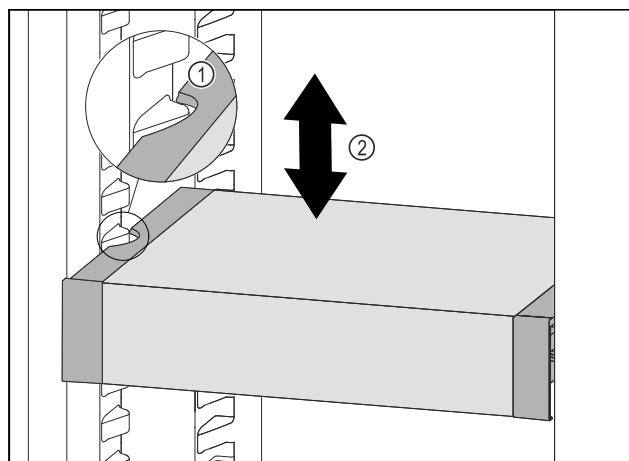

Fig. 118
- ▶ Pull VarioSafe forwards until the recesses in the side of the VarioSafe are at the level of the support rib in the refrigerator compartment. *Fig. 118 (1)*
- ▶ Move VarioSafe up or down in the refrigerator compartment until the desired height is reached. *Fig. 118 (2)*